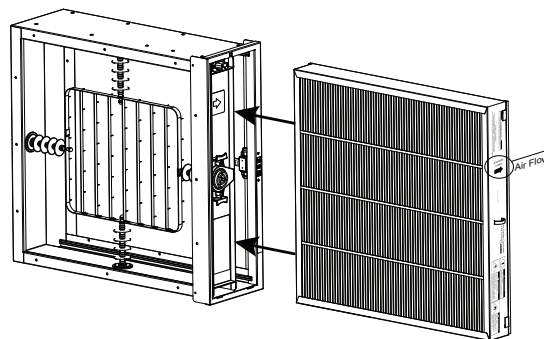

Fig. 16 – Replace Filter
2. Slide the filter into the cabinet next to the FEM with the filter pull-tab facing outward and paying particular attention to the airflow direction arrows. See Fig. 16.